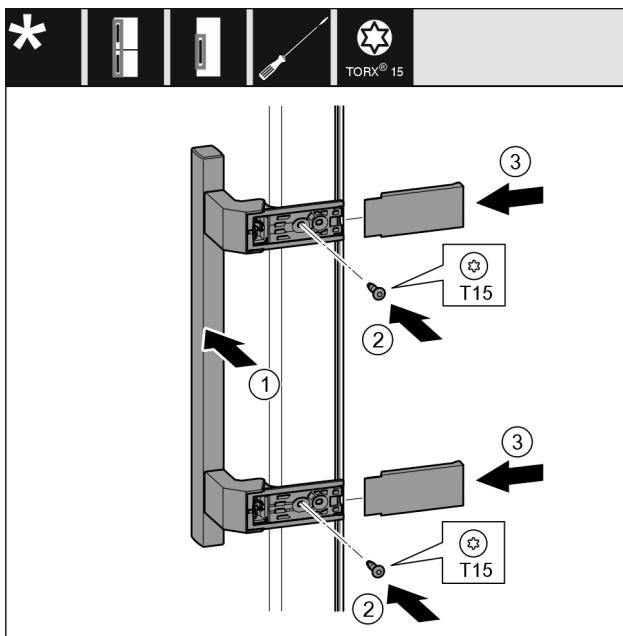

Fig. 43
- Attach the handle on *Fig. 43 (1)* the opposite side.
- Tighten the screws *Fig. 43 (2)* with the screwdriver.
- Attach the covers *Fig. 43 (3)* on the sides and slide them on.